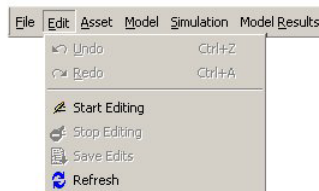

Figure 11.2 Start editing
- Select Edit | Start Editing - see Figure 11.2